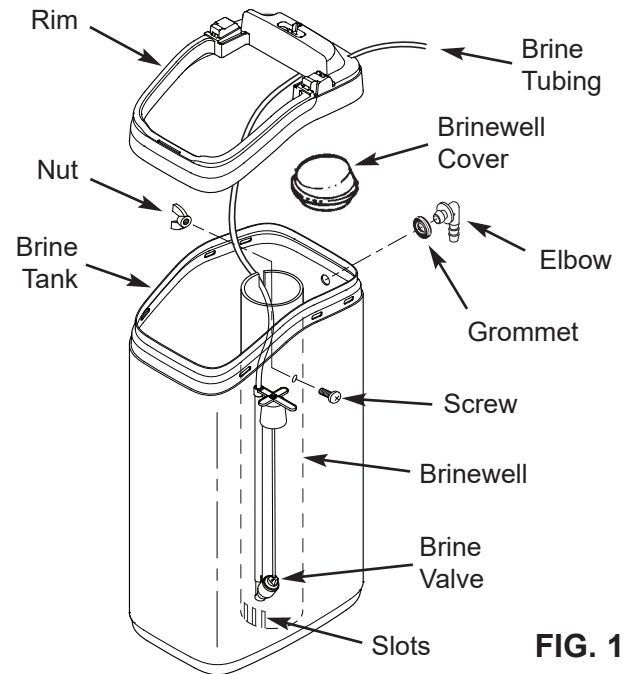

FIG. 12
- a. Snap the rim into place on the brine tank (See Fig. 12).
- c. Lower the brine valve into the brine well. Push the tubing into the brine well top slot (Fig. 12) and route it out through the hole in the back of the rim.
- a. Route the tubing attached to the brine valve assembly out through the hole in the back of the rim (See Fig. 12). Use the slot in the brinewell to hold tubing in place.